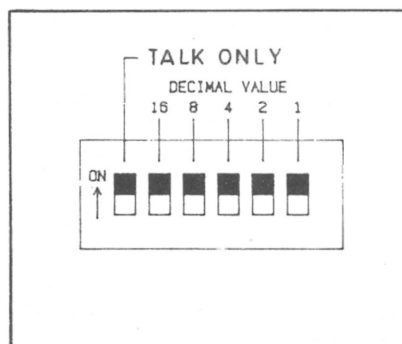

Fig.3 GPIB Address Switch
34. The instrument's talk/listen address is selected by the address switch as shown in Fig.3. The address switch is positioned on the GPIB interface unit alongside the GPIB connector on the rear panel. The instrument's internal address register will be updated by reading the setting of the address switch. This operation is performed at power-on and on receipt of a device clear message. The current GPIB address is shown on the display on switch on when the interface is correctly installed.